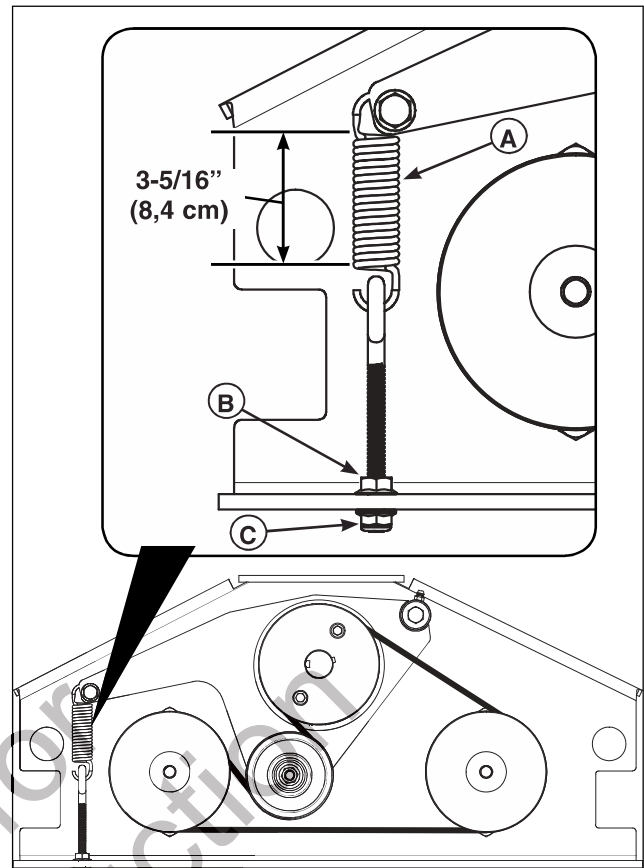

Figure 57. Idler Arm Spring Adjustment
11. Reinstall the pump guard plate (B, Figure 57) and secure in place using the pump plate hardware (A).
1. Measure the coil length of the idler arm spring (A, Figure 57) as shown in Figure 57. The measurement should equal 3-5/16" (8,4 cm).
2. If the measurement does not equal 3-5/16" (8,4 cm) loosen the jam nut (B) and turn the nylock flange nut (C).